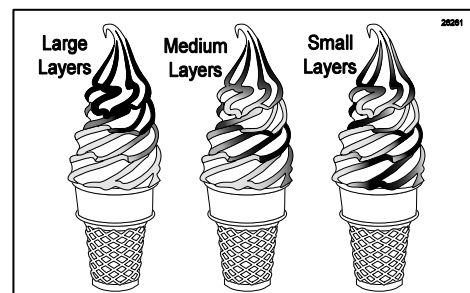

Figure 181
5. Determine if the serving needs thinner or thicker layers of flavor. This is largely a matter of personal preference and, if desirable, you may repeat steps 1-4 until the desired effect is achieved. (See Figure 181.)